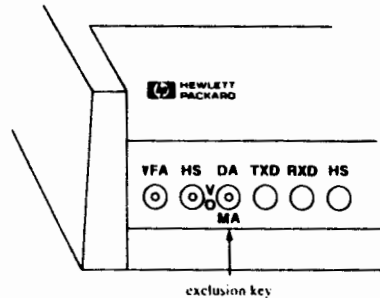

Figure 5-7. Exclusion Key in Manual Mode
1. Telephone the customer. Instruct him to depress FA (Forced Answer) on the modem (see Figure 5-7).